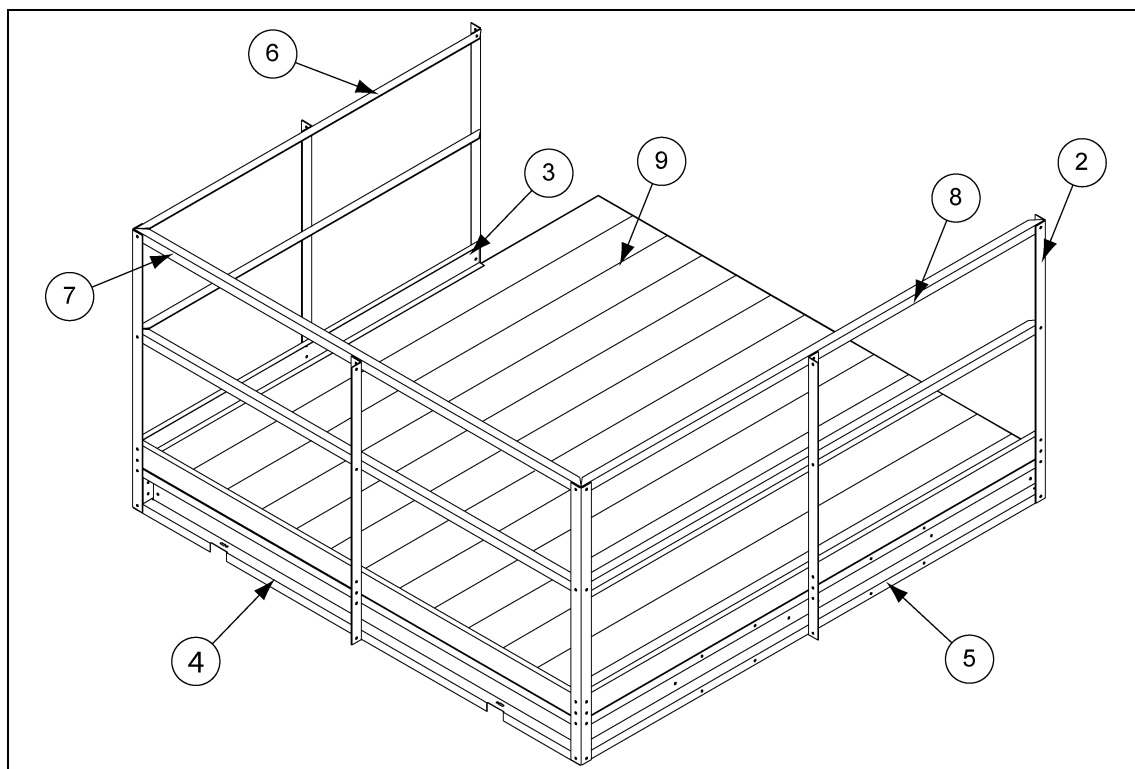

Figure 9R
When bolting stiffener to sidewall at locations where platform supports are to be attached, use twenty five (25) 5/16" x 1-1/4" bin bolts, heads to inside. Start 12" below horizontal seam of second and third rings from top. (See Figure 9R.)